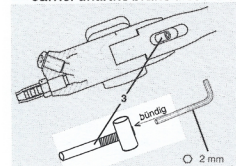

Fig. 4
- Screw the lever adjustment screw (3 Fig. 4) clockwise with a 2 mm hexagon wrench, until the disc pads slightly graze as you rotate the wheel.
The wear limit is reached if the brake lever can be pulled almost back to the handlebar grip (shift with a sufficient deceleration) and the adjustment screw (3 Fig. 4) is screwed in so much that it is flush with the cylindrical nut.